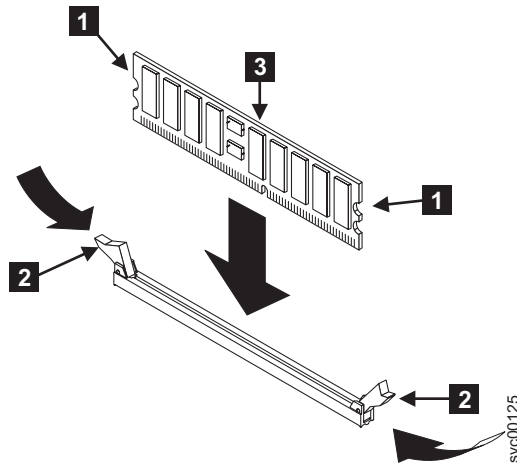

Figure 100. Replacing a memory module
1. With the clips **2** open, lower the memory module **3** into the connector, as shown in Figure 100 on page 117. Insert the DIMM fully to close the clips.